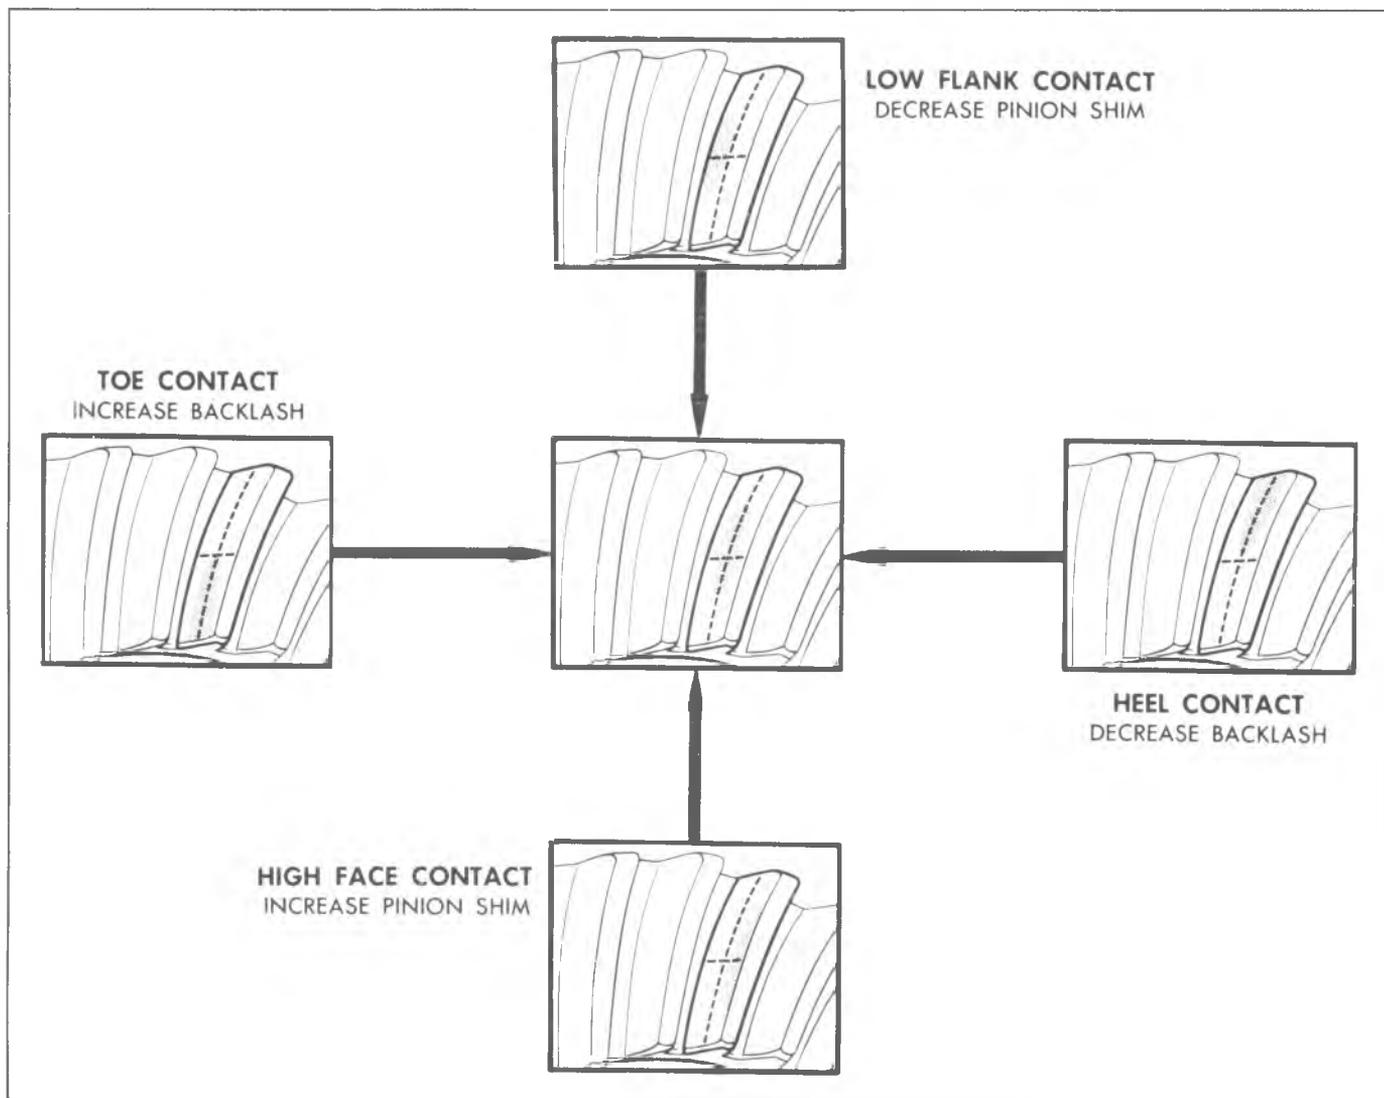

Fig. 28C--Gear Tooth Contact Pattern
5. Observe pattern on ring gear teeth and compare with figure 28C.